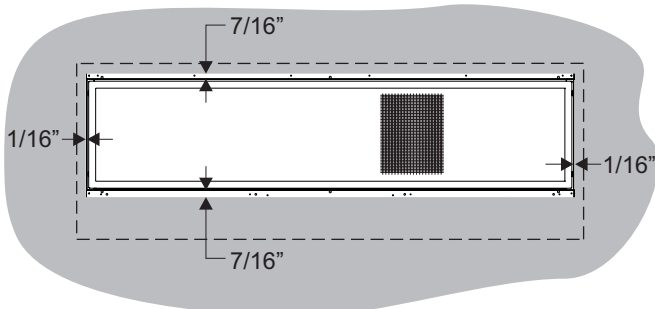

Figure 1
- For installation of decorative front kits, 1/16-inch unfinished space is required to either side of the fireplace opening, and 7/16-inch unfinished space is required on top and bottom of the fireplace opening. **See Figure 1.**